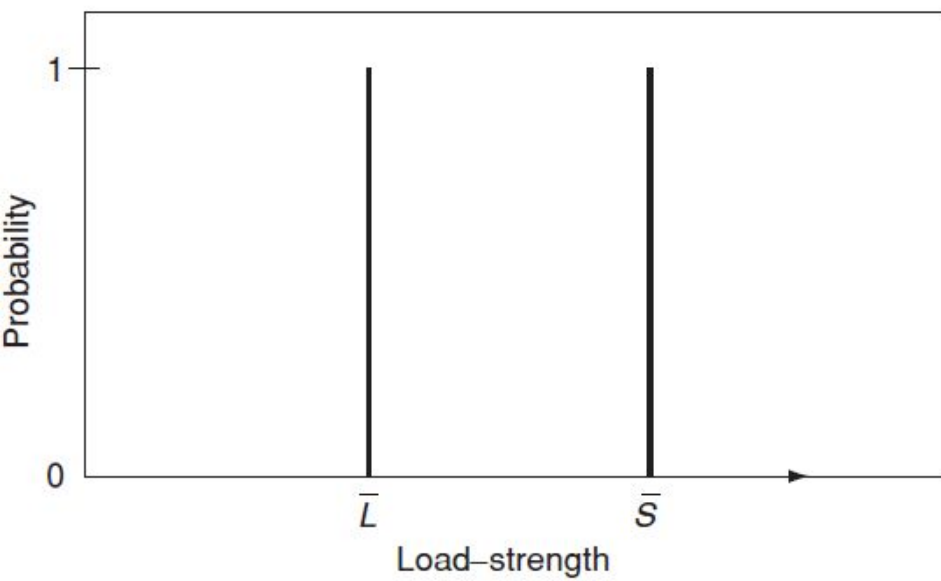
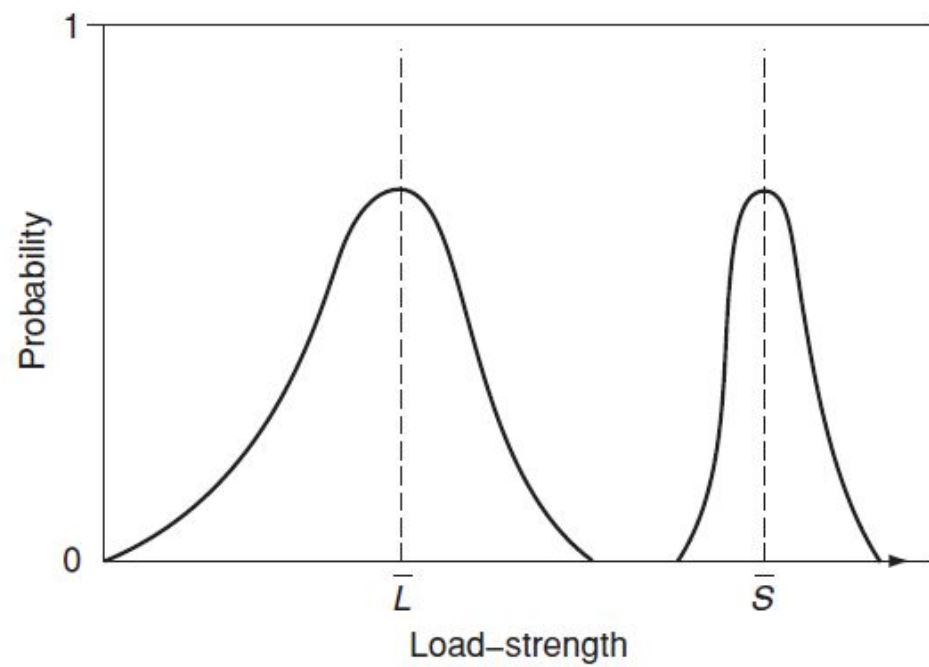

Figure 1.2 Load-strength – discrete values.
Figure 1.3 Load-strength – distributed values.
- 3 Failures might be caused by *variation*. In the situations described above the values of strength and load are fixed and known. If the known strength always exceeds the known load, as shown in Figure 1.2, then failure will not occur. However, in most cases, there will be some uncertainty about both. The actual strength values of any population of components will vary: there will be some that are relatively strong, others that are relatively weak, but most will be of nearly average strength. Also, the loads applied will be variable. Figure 1.3 shows this type of situation.